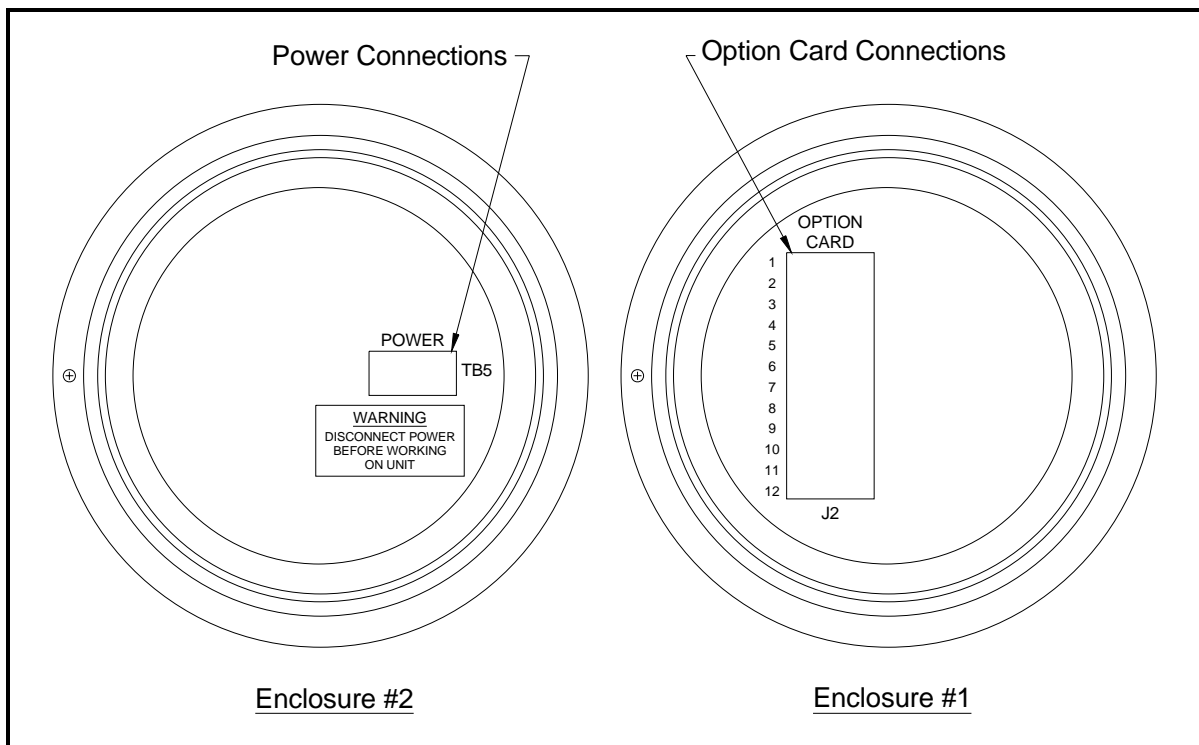

Figure 1-12: Connection Labels Inside Rear Covers
4. Note the label inside each rear cover (see Figure 1-12 below) to assist in wiring the power (enclosure #2) and option card connections (enclosure #1).